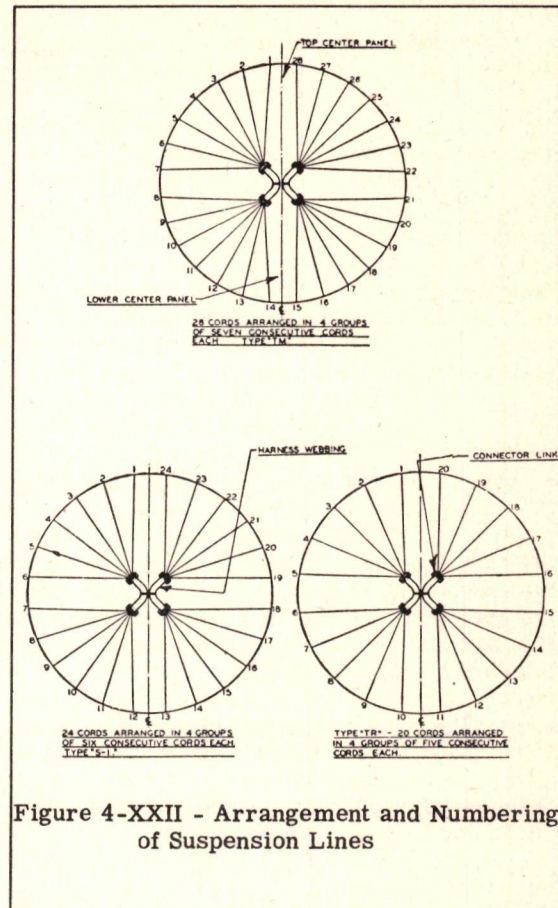
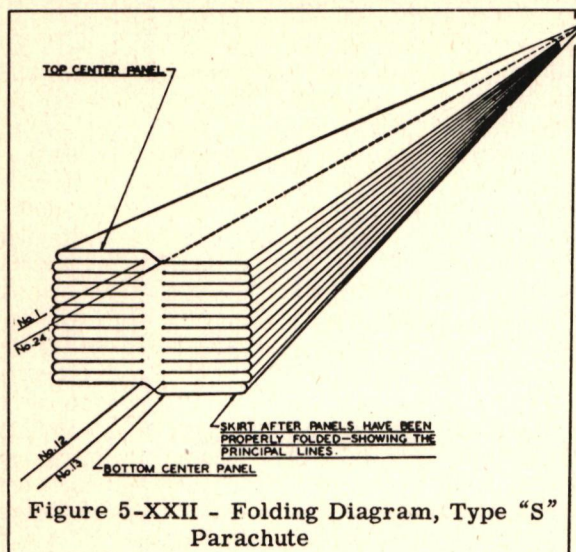

Figure 4-XXII - Arrangement and Numbering of Suspension Lines
Figure 5-XXII - Folding Diagram, Type "S" Parachute
b. It is noted in fig. 4-XXII that there is a space through which a vertical center line can be drawn without intersecting any of the lines representing the suspension lines or harness webbing. The point at which this line intersects the circumference locates the centers of two panels that are referred to as the upper and lower center panels. For convenience in instruction, the suspension lines are shown graphically in this figure and are numbered, beginning with the one at the left of the top center panel, anti-clockwise, completely around the skirt of the canopy. The suspension lines nearest the center line are the principal reference lines when parachutes are correctly laid out for folding (fig. 5-XXII). The service or S-type parachutes are most generally used and will therefore be referred to in the following procedure for folding and packing. The assumption is also made that a type-S seat pack and harness are used although the instructions will apply to the other standard types of parachute assemblies by substituting their suspension line numbers in fig. 5-XXII.
(1) After making the complete inspection, place the connector links of the harness lift webs over dowel pins in the surface of the folding table to hold the parachute taut. Grasp the suspension lines of the right group in one hand and those of the left group in the other and work toward the skirt of the parachute, thus separating the lines into two groups and at the same time dividing the panels. Thus arranged, the top center panel (between lines Nos. 24 and 1) should be on the top, and the bottom center panel (between lines Nos. 12 and 13) should be on the bottom, with lines Nos. 1 to 12, inclusive, in the left-hand group and Nos. 13 to 24 inclusive, in the right-hand group. Next trace suspension lines Nos. 24 and 1 from the skirt of the canopy back to the harness connector links, ascertaining their correct location. Suspension lines Nos. 12 and 13 should be traced in like manner, placing the parachute in position for folding the panels.
(2) Holding the bottom panel in place on the folding table, place the remaining panels of the right group over to the left and properly fold this panel (between lines Nos. 12 and 13) by stretching it out smoothly. All suspension lines should be kept taut during the folding operation. Fold the remaining panels of the right hand group in the same manner, placing the panels directly over each other in their correct order. The last panel of the right-hand group to be thus folded is the one between lines Nos. 23 and 24. After all panels of the right-hand group have been properly folded, place weights on them. Next throw the panels of the left-hand group over those of the right-hand group that have already been folded, so as to expose the bottom panel on the left-hand side, which is the one between lines Nos. 11 and 12. Fold this panel to the left-hand side and fold the remaining panels of the left-hand group in their proper order over this one. The last panel of the left-hand group to be folded is the one between lines Nos. 24 and 1, or the top center panel. All panels are then in their proper position.
(3) Double over each group of panels so that the over-all width of the folded panels is equal to the equivalent width into which the canopy must be placed in the pack. Place weights over these folds in order to hold them in place.